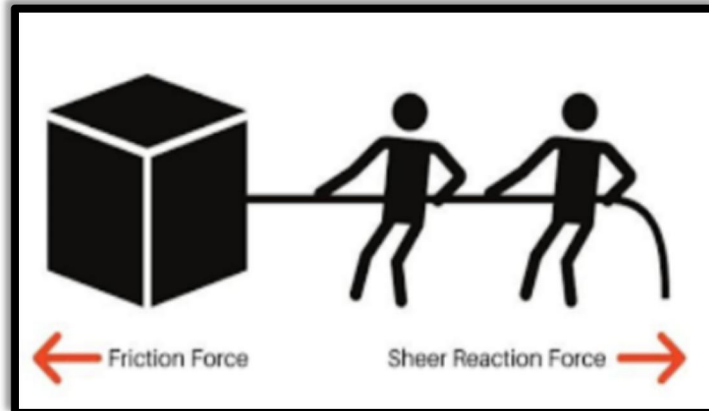

Figure 2.3 Frictional force acting against the pulling force and motion
- Can be defined as the **force that opposes the relative motion of two surfaces**. Frictional force can be illustrated such as in **Figure 2.3**.